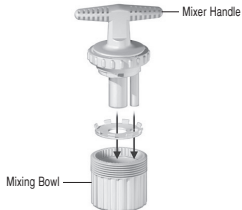

Figure 2: CONFIDENCE 11cc Spinal Cement Mixer
- Perform the following steps (Figures 2 and 3) to prepare the cement:
- Open the sachet with care. With the mixing bowl sitting on a flat surface as shown in Figure 2, pour all the powder into CONFIDENCE mixing bowl.
- Keeping the mixing bowl in the vertical orientation shown in Figure 2, screw the mixer handle onto the mixing bowl, and turn the handle 20-30 seconds clockwise and 20-30 seconds counter-clockwise. Note: It is important to hold the CONFIDENCE Mixer in the vertical orientation during the entire mixing procedure to ensure uniformity of mixing. Unscrew and remove the mixer handle.